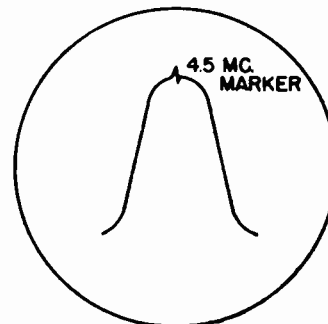

FIGURE 10 - SOUND IF RESPONSE
2. Connect oscilloscope to limiter grid resistor R104 - 47M through a 270M isolating resistor. Adjust trap core L56 until 4.5 Mc. marker is centered at the peak of the response curve. See Figure 10.